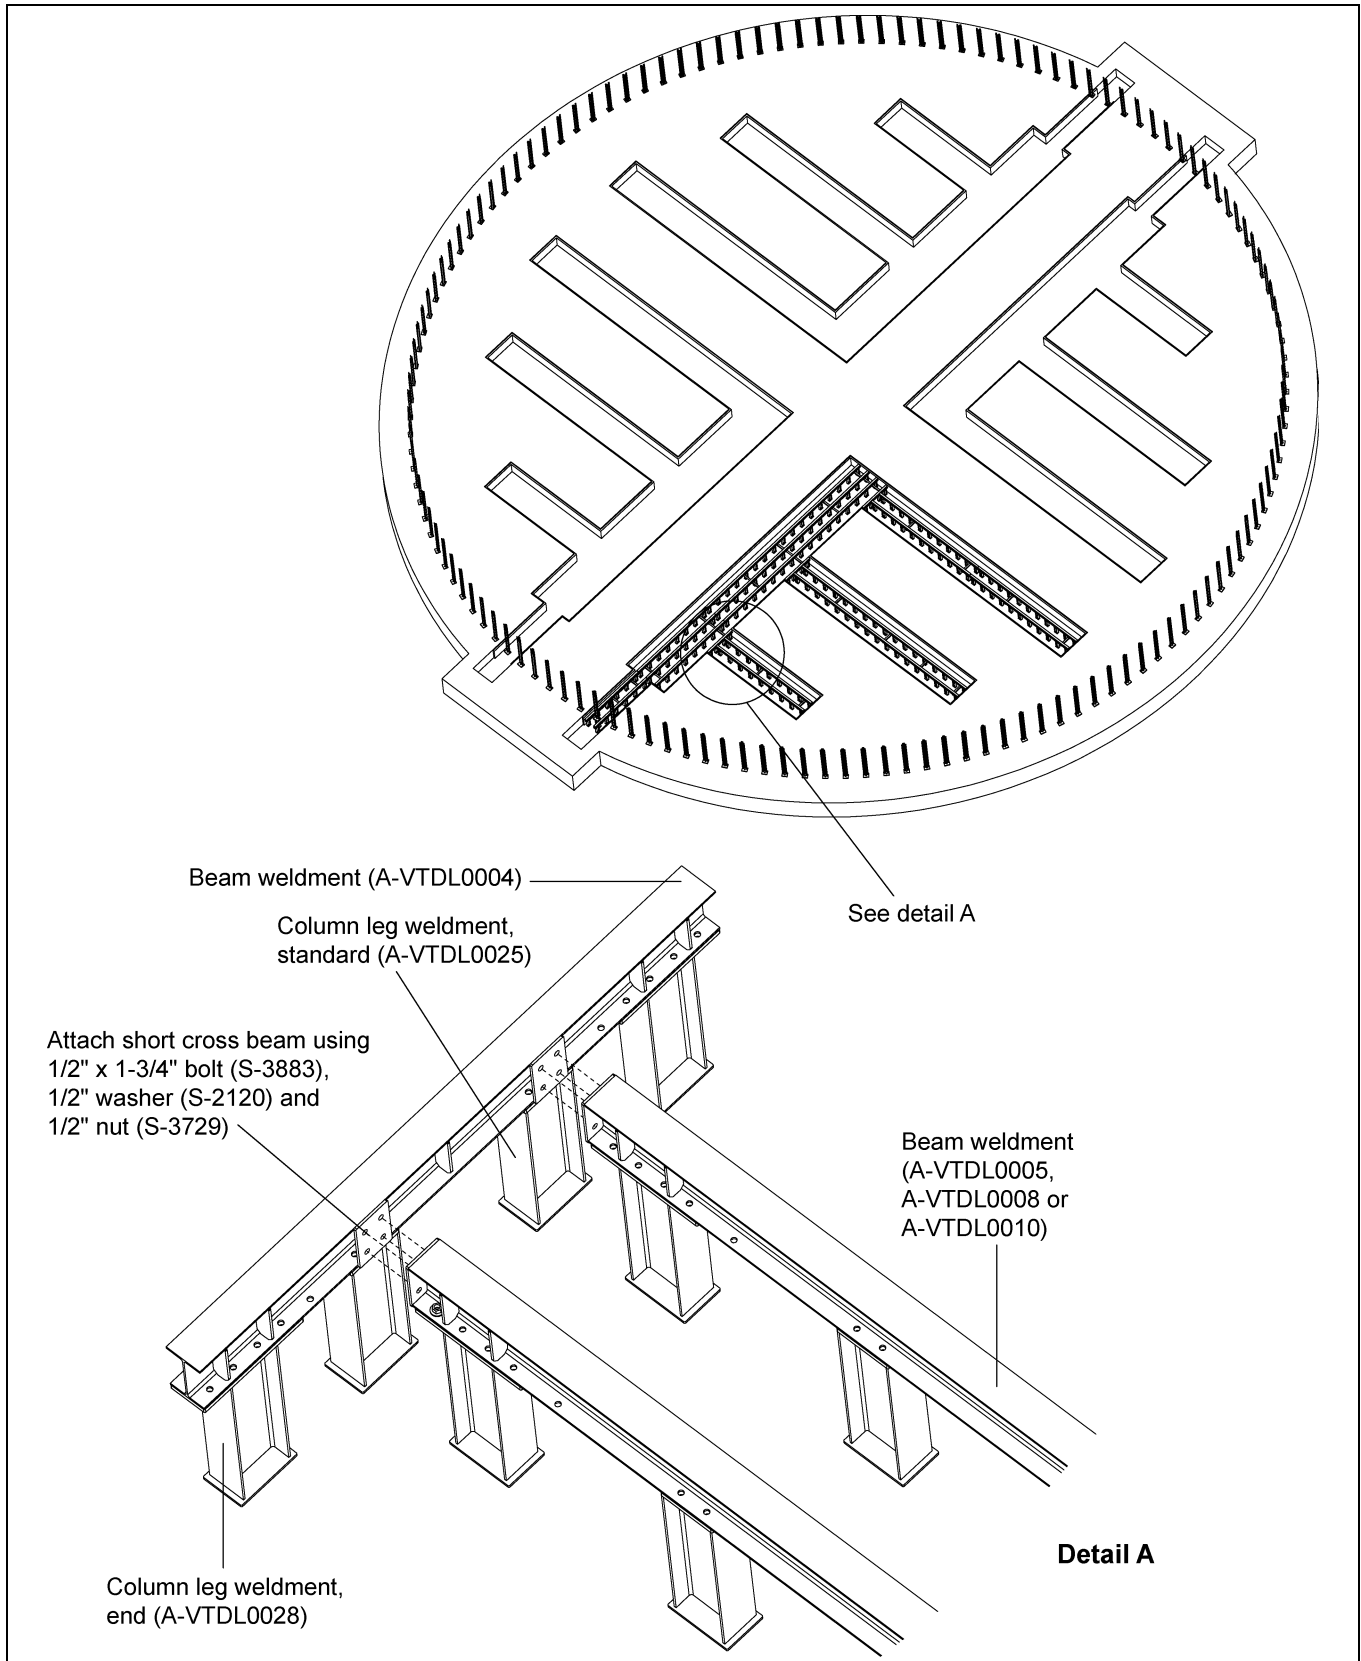

Figure 2B
2. Attach cross beam weldments to horizontal weldments using 1/2" hardware. Twelve (12) cross beams locations in complete floor. (See Figure 2B.)